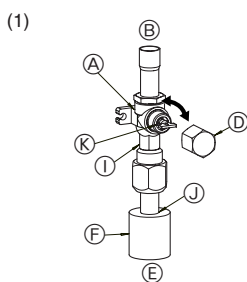
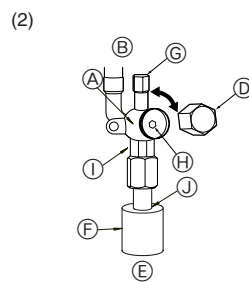

Fig. 4-5
Fig. 4-6
(1) Gas side of P71-140 (Fig. 4-5)
- ① Remove the cap, pull the handle toward you and rotate 1/4 turn in a counterclockwise direction to open.
- ② Make sure that the stop valve is open completely, push in the handle and rotate the cap back to its original position.
(2) Liquid side of P71-140 (Fig. 4-6)
- ① Remove the cap and turn the valve rod counterclockwise as far as it will go with the use of a 4 mm hexagonal wrench. Stop turning when it hits the stopper. (ø9.52: Approximately 10 revolutions)